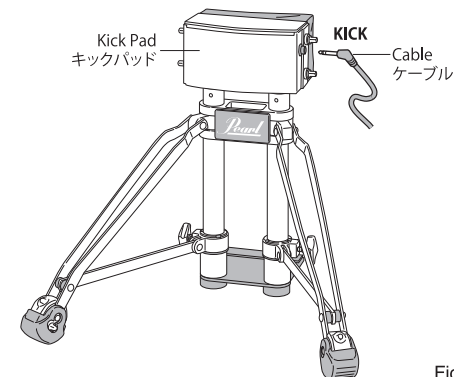

Fig.18
- Connect the Kick Pad to the Sound Module by using the cable labeled as **KICK**. Insert the cable-end into the jack located on the side of the drum as shown (Fig.18).
ケーブル **KICK** をジャックに接続します (Fig.18)。